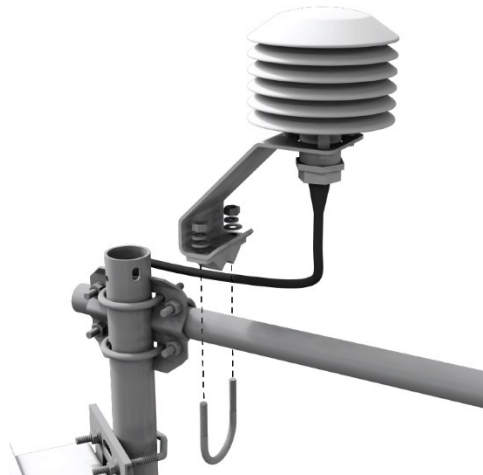

FIGURE 6-5. Mounting the temperature/relative humidity probe
1. Use the U-bolt, 1/2-in screws, and washers included for mounting the dedicated temp/RH probe to the end of the crossarm as shown in FIGURE 6-5 (p. 34).